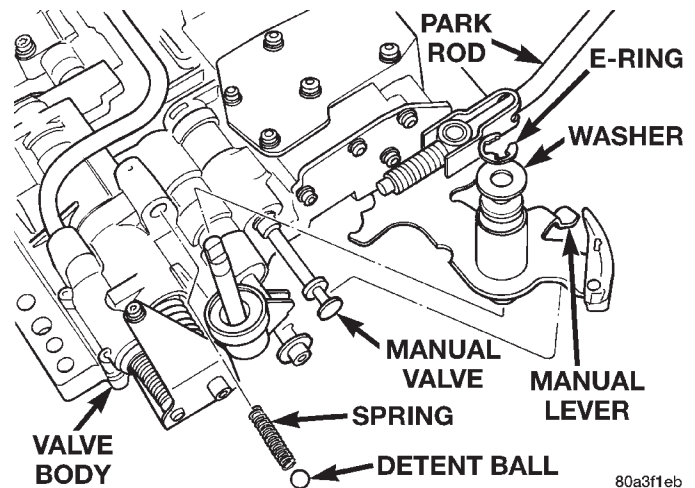

Fig. 66 Manual And Throttle Levers
(42) Insert throttle lever through transfer plate side of valve body and upward (Fig. 66).
(44) Install seal, washer, and E-clip to retain manual shaft to valve body (Fig. 66).